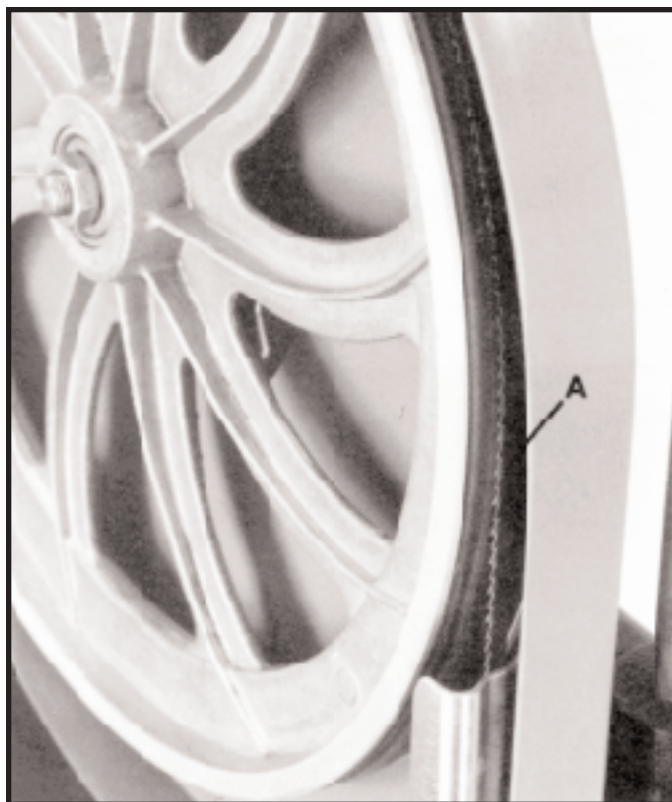
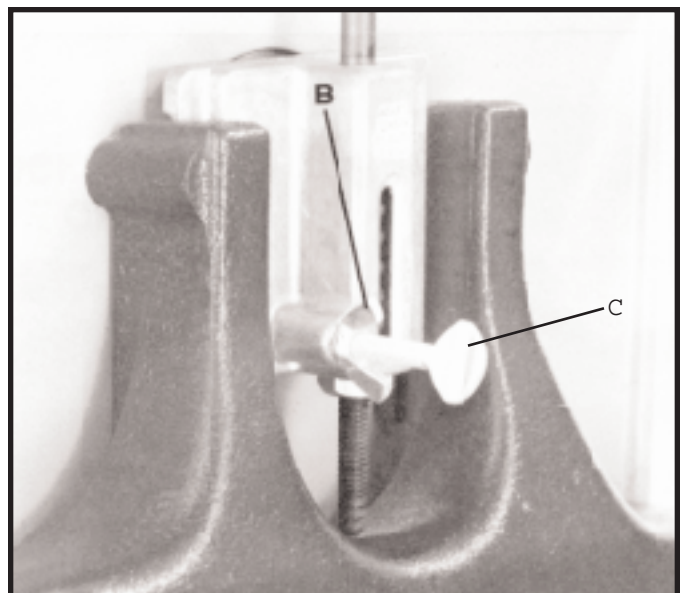

Fig. 41
Fig. 42
After tension has been applied to the blade, revolve the wheels slowly forward by hand and watch the blade (A) Fig. 41, to see that it travels in the center of the upper tire. If the blade begins to creep toward the front edge, loosen the wing nut (B) Fig. 42, and tighten the thumb screw (C). This will tilt the top of the wheel toward the back of the machine and will draw the blade toward the
center of the tire. If the blade creeps toward the back edge, turn the thumb screw in the opposite direction. Adjust the thumb screw (C) Fig. 42, only a fraction of a turn at a time. NEVER TRACK THE BLADE WHILE THE MACHINE IS RUNNING. After the blade is tracking in the center of the tires, tighten the wing nut (B) Fig. 42.